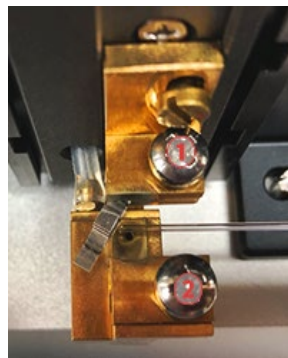

Figure 6-6
- 7) Install the new heating filament on the jaw to make the glass go through the center of the filament, and put in two screws ①②. Be careful not to tighten the screws at this time, as shown in Figure 6-6.